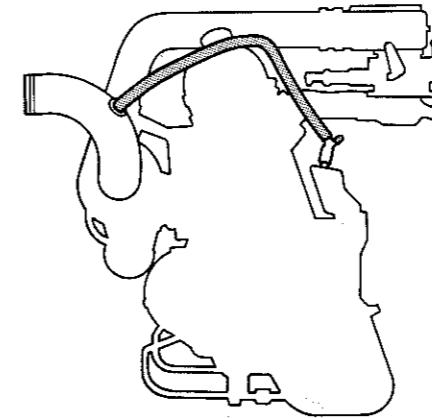

Fig. 1.5 Typical crankcase ventilation hose routing – Turbo (Sec 5)
- 1 The crankcase ventilation system directs oil fumes and blow-by gases from the lower crankcase into the induction system, so that they may be drawn into the engine and burnt. Typical hose layouts are shown in Figs. 1.5 and 1.6